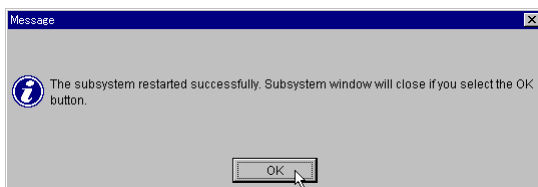

Figure 4.9 Subsystem Restart Successful Message
- When the restart terminates, a message appears (Figure 4.9). Click **OK**; the Unit screen closes.
9. When the restart is complete, a message appears (see Figure 4.9). Click **OK**; the Unit window closes.